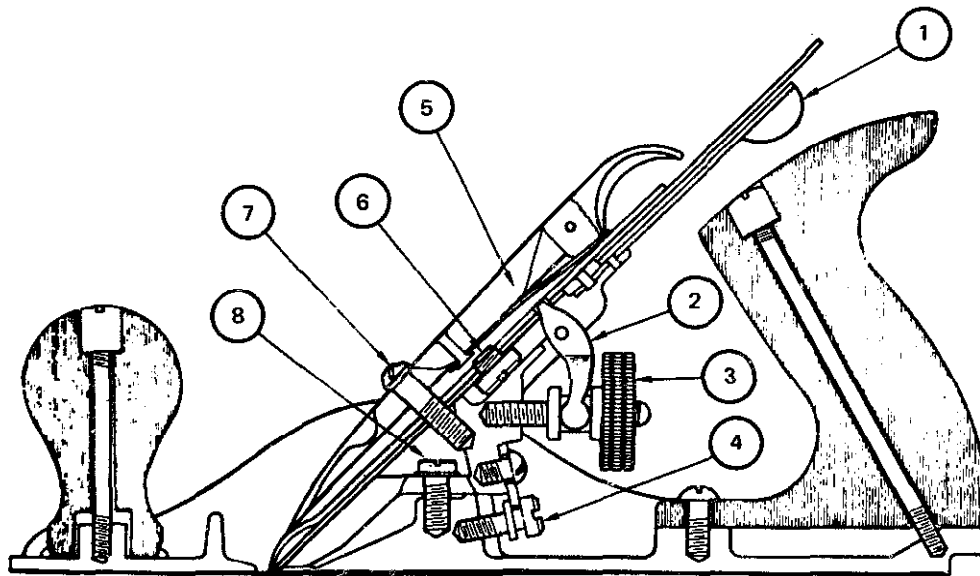

Fig. 8-78
1. Identify the parts of the plane shown in figure 8-78.